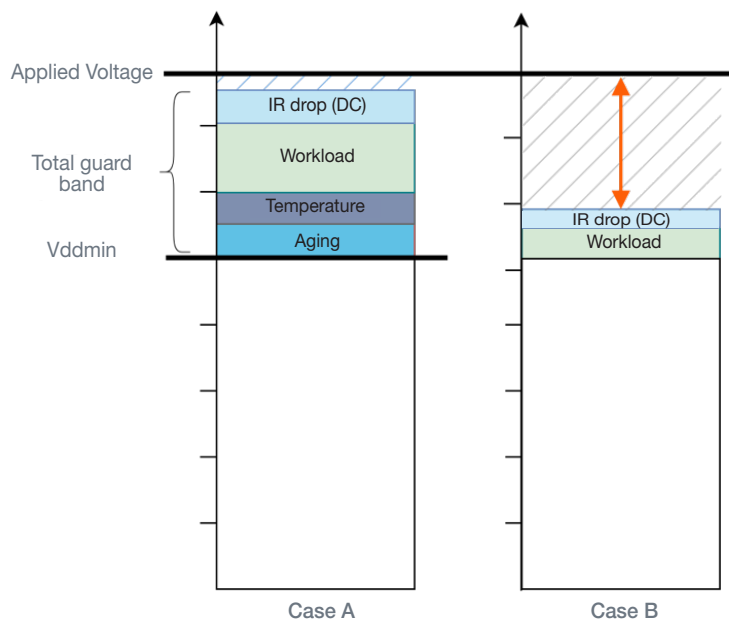

Figure 4: Actual vs required voltage examples
**Figure 4** shows use cases that illustrate the actual vs required voltage.